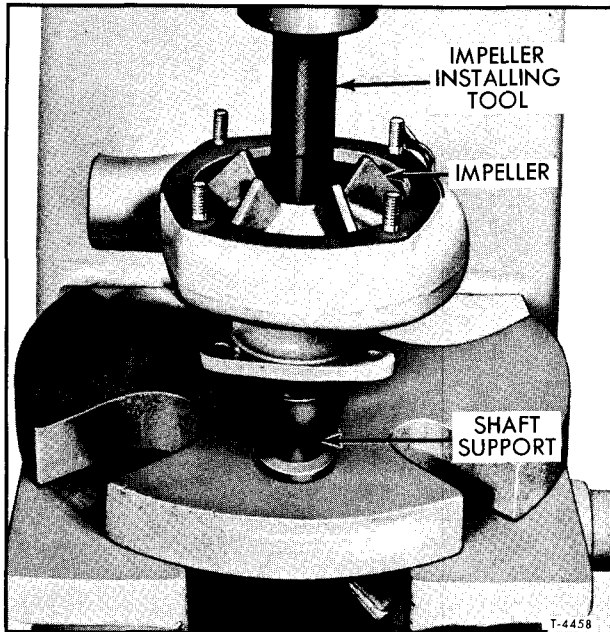

Figure 36—Installing Water Pump Impeller
5. Support the bearing end of the shaft (not the drive coupling) on the bed of an arbor press. Then press the impeller on the shaft using impeller installer (J-22437) as shown in figure 36. On current engines the end of the shaft must be flush with